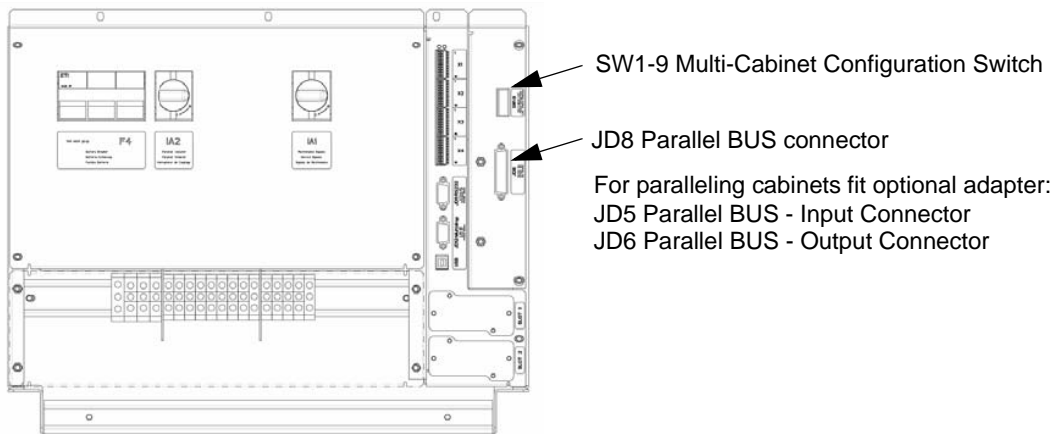

Figure 3.17 Cabinet interface board
5. Fit a parallel adaptor board over the connector JD8 on the interface board (Figure 3.17) in every UPS cabinet.